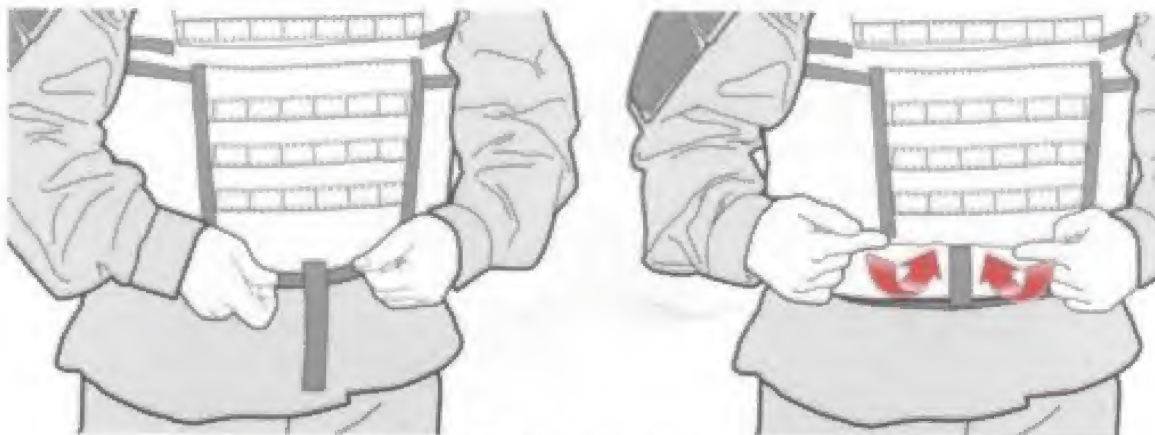

Fig. 17. Closing the Front Flap.
8. Close the Front Flap, secure with hook and pile tape, and tuck the bottom of the Front Flap into the Front Flap Pocket as shown in Fig. 17.